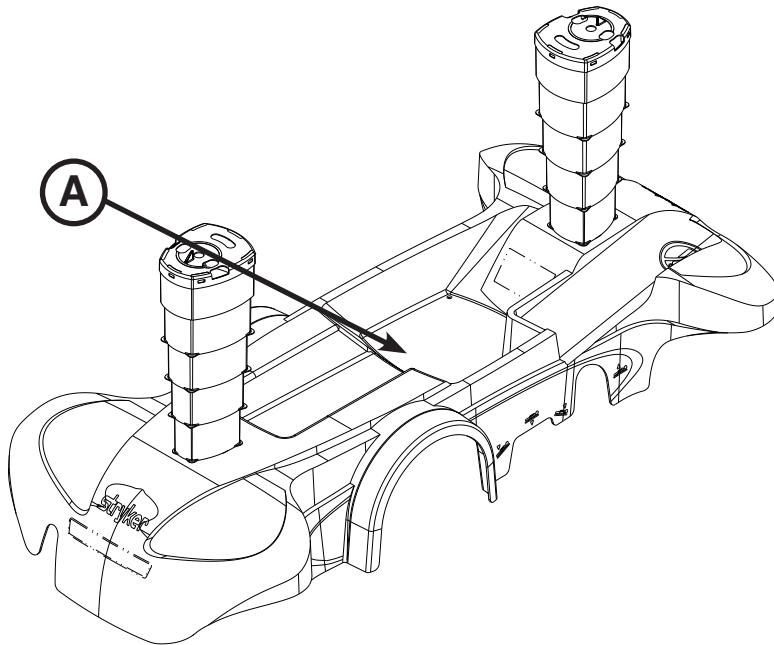

Figure 15: Base Hood Storage
You can store items in the base hood (A) as shown in Figure 15.